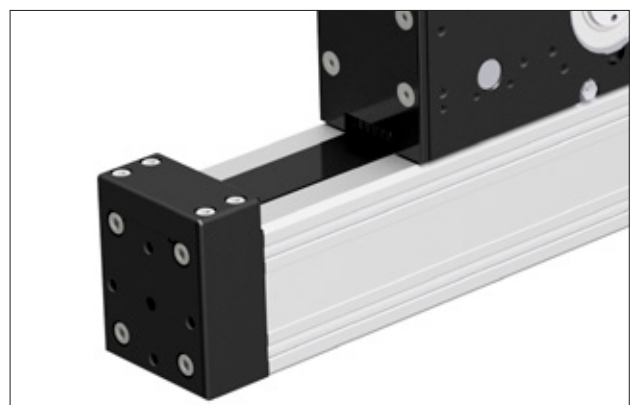

Figure 5.2 AXF with toothed belt / Ω -drive
- Compact linear axis for the use as lifting axis for low and medium loads (Figure 5.2)